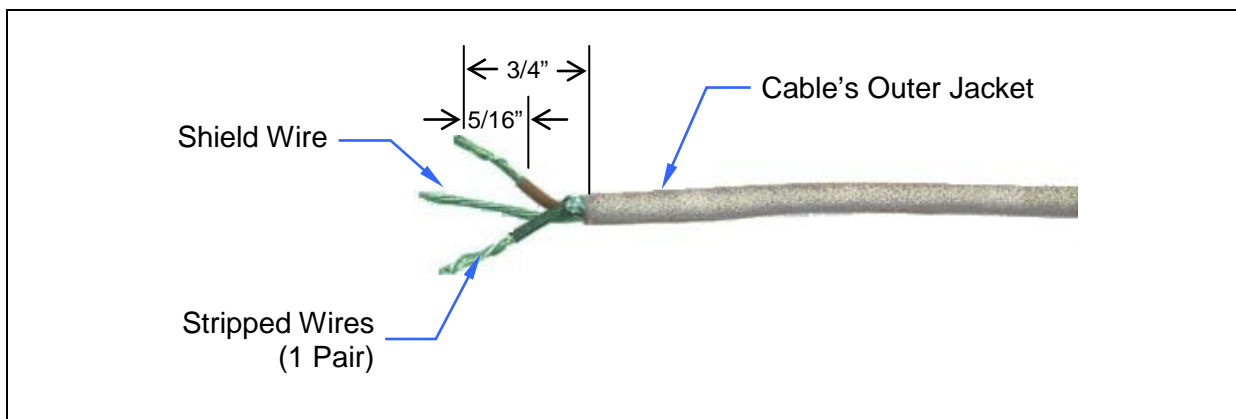

Figure 5-18: Dimensions for Stripping 2-Wire (with Shield) CAN Cables
11. With a 22-AWG wire stripper, strip off 5/16-inch of insulation from each individual wire in the shielded pair. The third wire in the cable is the shield/ground wire; do not cut it. See Figure 5-18.